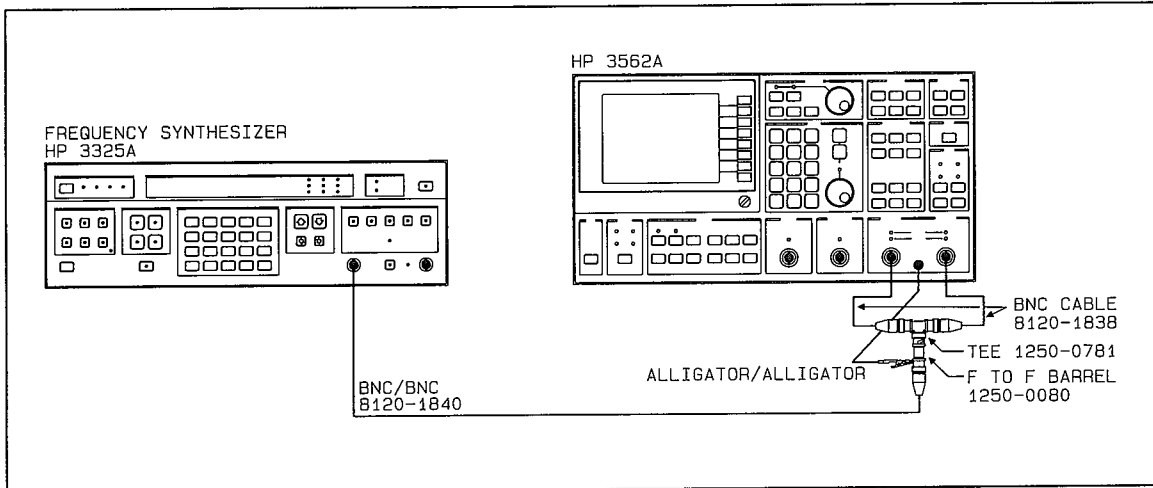

Figure 2-6 (OV) Common Mode Rejection Test Setup #1
A. Connect the test instruments as shown in figure 2-6. Refer to "Initial Equipment Setup", paragraph 2-6, for unspecified parameters.